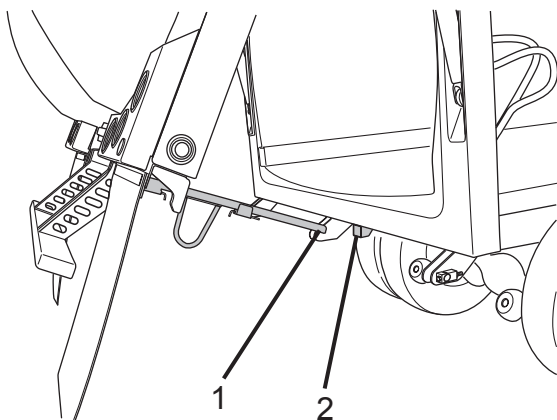

Figure 18
4. Position the end of the prop (Figure 18, Item 1) over the pocket (Figure 18, Item 2) and lock in place with spring loaded pin.